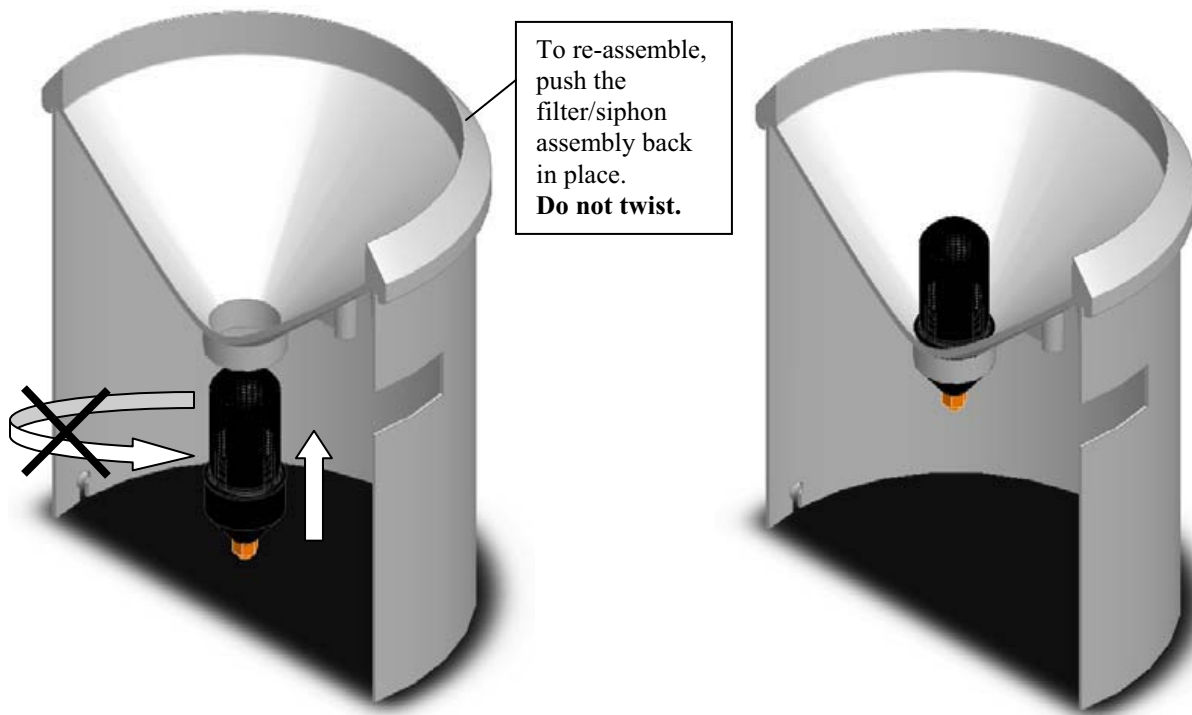

FIGURE 7-4. Reassembling the TB4
4. Push filter/siphon assembly back into place (see Figure 7-4).